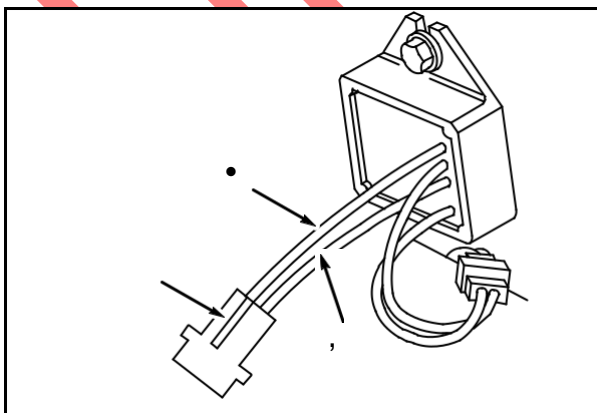

Fig. 29
Regulator-rectifier Part #493219, Fig. 29, is used by OEMs that have a charging indicator light instead of an ammeter. In addition to the RED DC output wire (1), the regulator-rectifier has a BLUE wire (2), to activate a charging indicator light when battery voltage is below 12 volts. The connector has a raised rib (3) on the RED wire side to indicate the output side of the connector.